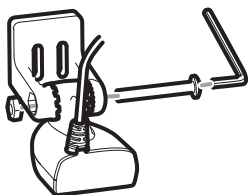

Figure 19
- Put the pivot bolt through the assembly to hold it in position and loosely install the nut, but do NOT tighten the nut at this time (Figure 19).